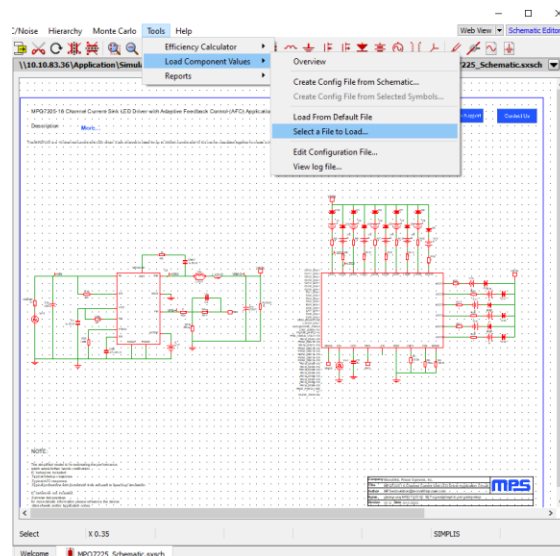

Figure 28: Load the IIC Spreadsheet Parameters
- Open the MPSSmart schematic. Click Tools > Load Component Values > Select a File to Load (see Figure 28). Select and open the text file named “MPQ7225_IIC_Set_MPSSmart.txt” in the document folder. Click “Ok” to complete the parameters transfer. Each time the setting parameters are modified in the IIC spreadsheet, repeat steps 3 and 4 to reload the parameters to the MPSSmart schematic.